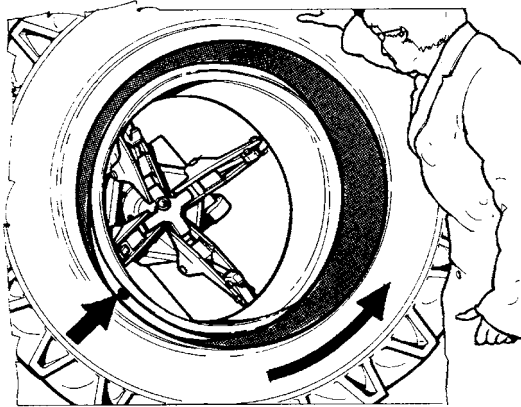

Fig.49
10. Place the hook tool as in fig.49. The edge of the hook should be about 1" (2-3 cm) away radially from the rim edge and about 1" (2-3 cm) to the outside.